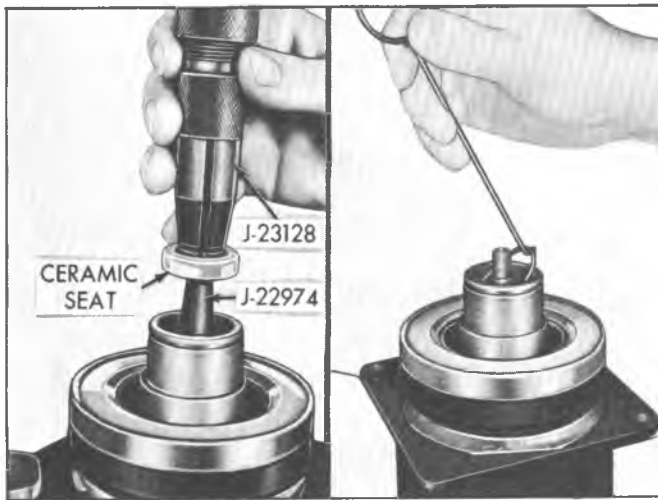

Fig. 11-Removing Seal Seat and "O" Ring
4. Place Tool J-22974 over the end of the shaft to prevent chipping the ceramic seat. Fully engage the knurled tangs of Tool J-23128 into the recessed portion of the seal seat by turning the handle clockwise. Lift the seat from the compressor with a rotary motion (fig. 11).
6. Remove the seal seat "O" ring from the compressor neck using Tool J-9553 (fig. 11).